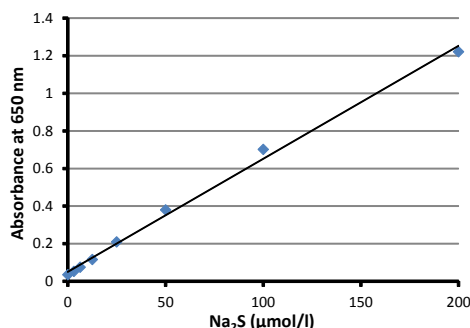

Fig. 2 Absorbance change at 650 nm depending on the concentration of hydrogen sulfide
- 6) Measure the absorbance at 650 nm using a microplate reader (Fig. 2).